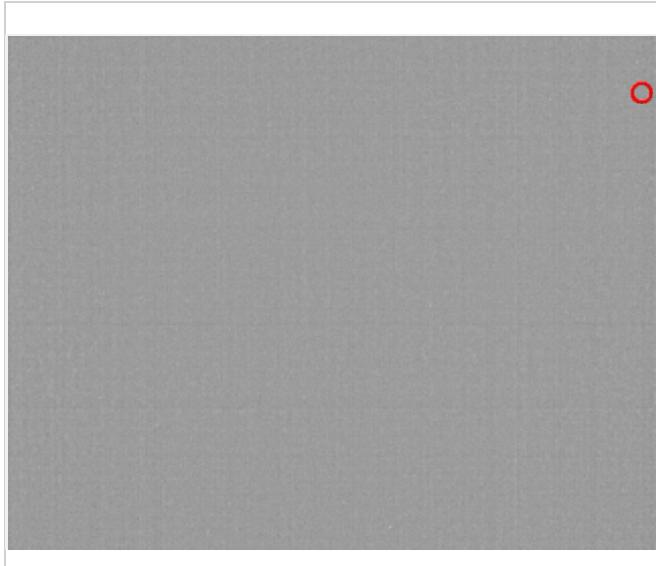

FIGURE 38: "TABLE-SWITCH DESIRED" SYMBOL (FACTORY-DEFAULT); UPPER RIGHT CORNER
- **Table-Switch Desired**: By factory default, the symbol shown in Figure 38 is displayed whenever the “Table-Switch Desired” flag is set (Section 6.14.3 and Section 7.9).